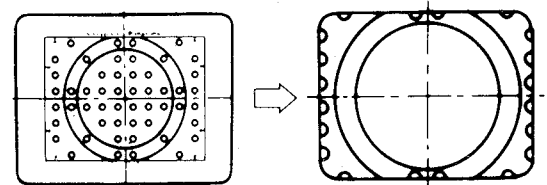

Fig. 4-3-3
- Aim the camera at the ball chart, and line up the reference arrow head with edge of the raster (blanking) on the viewfinder. (Fig. 4-3-3)
- Adjust H.SIZE VL3 to a point where the ball charts edges just disappear on the viewfinder. (Fig. 4-3-3)